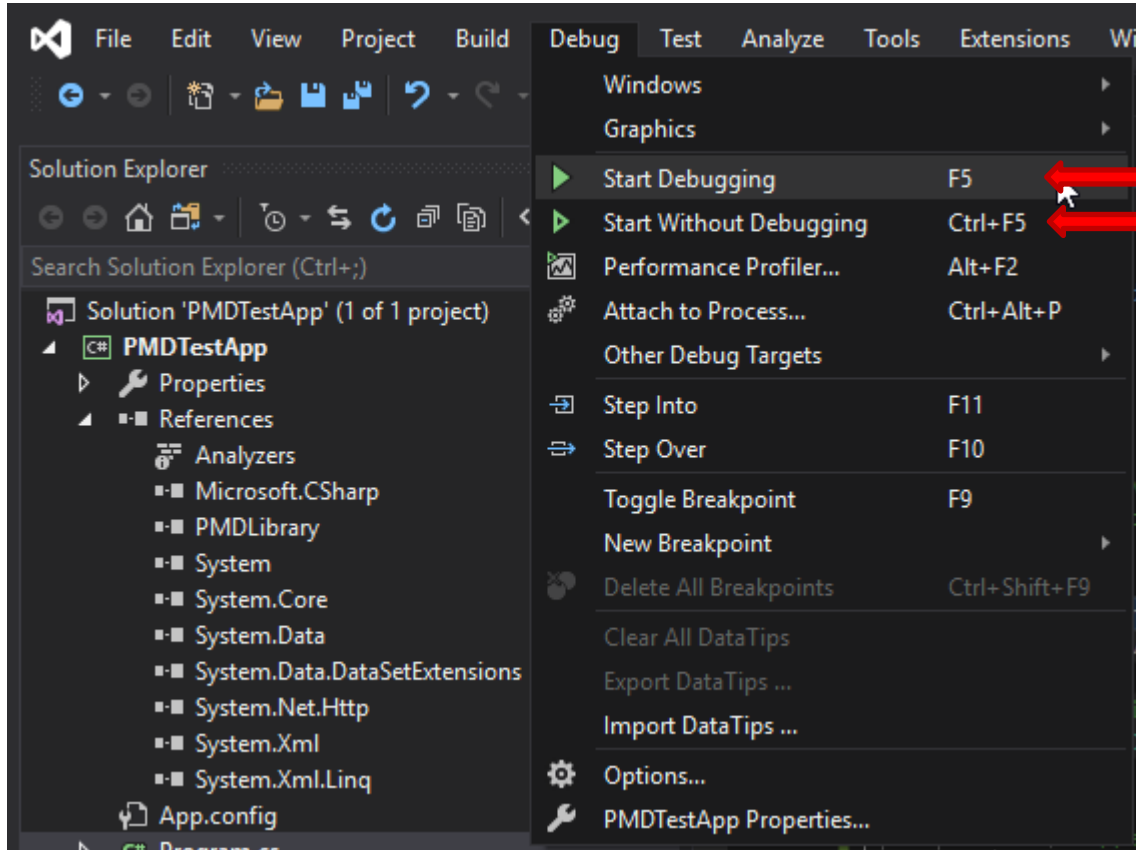

Figure 48 - VS2019 Debugging C#
- 6) To debug the program, select debug, and either Start Debugging, or Start Without Debugging per Figure 48 - VS2019 Debugging C#